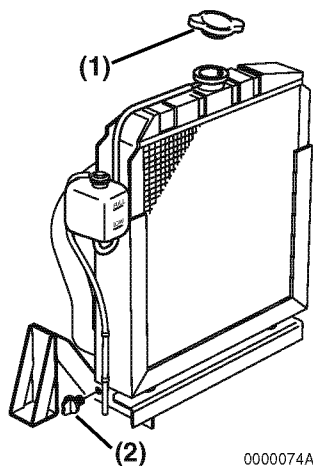

Figure 8-4
2. Remove the radiator cap (Figure 8-4, (1)).
3. Remove the drain plug or open the drain cock (Figure 8-4, (1)) at the lower portion of the radiator and drain the coolant.